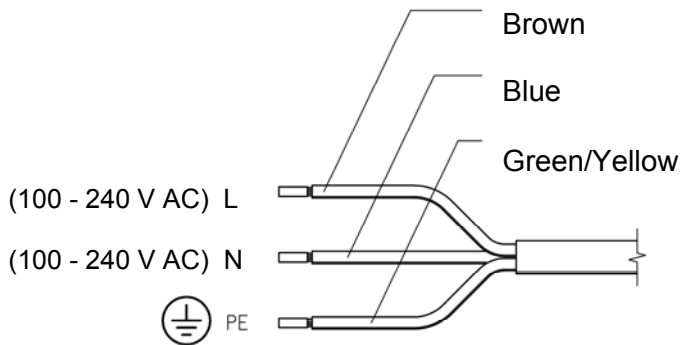

Figure 5: MPM power cable
- Connect the power cable to the mains power point or fit a plug. See figure 5.